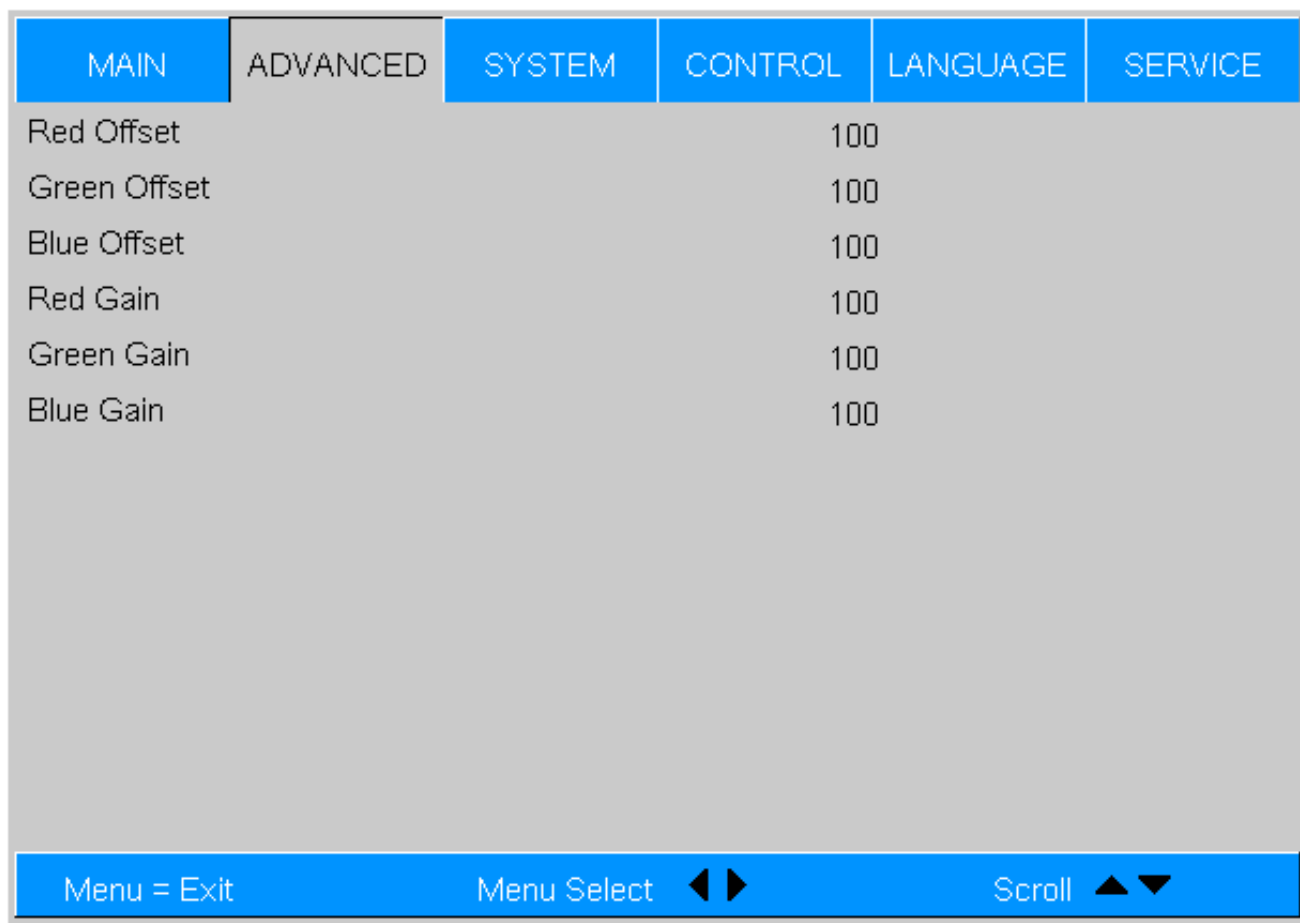

**Figure 4-9: RGB Adjust Sub-Menu**
**RGB Adjust:** To remove any trace of color from the white areas of the projected image, choose RGB Adjust from the Advanced menu and press ENTER. This displays the RGB Adjust sub-menu, shown in Figure 4-9.